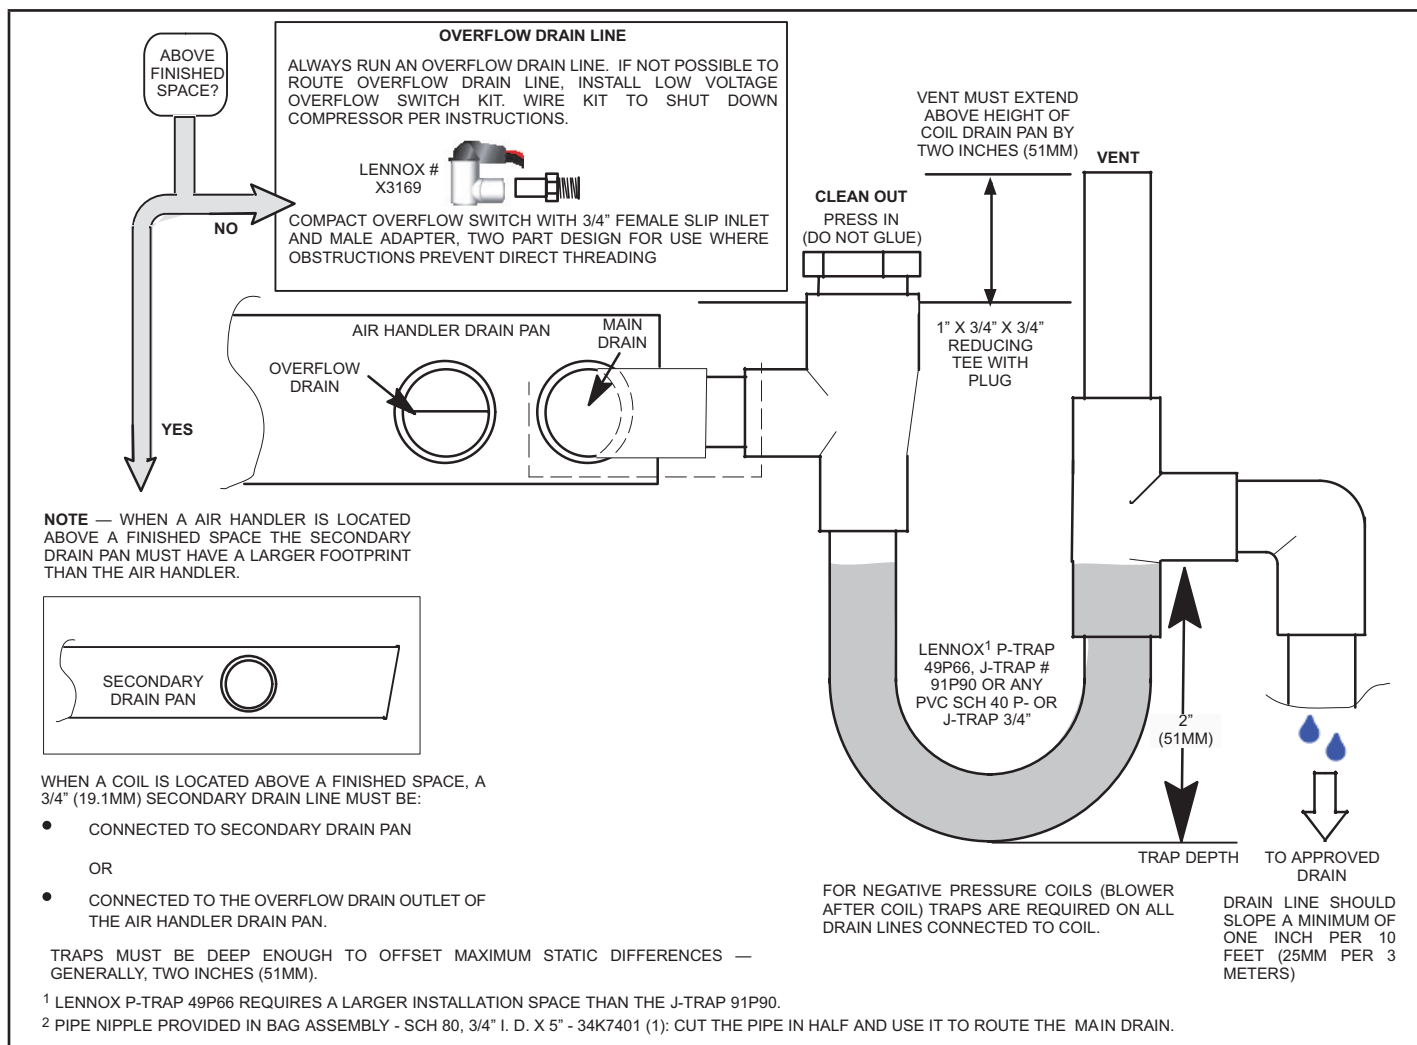

FIGURE 18. Typical Main and Overflow Drain Installations
- 7 - Install a 2" trap in the primary drain lines as close to the unit as practical (see figure 18). Make sure the top of the trap is below the connection to the drain pan to allow complete drainage of the pan.